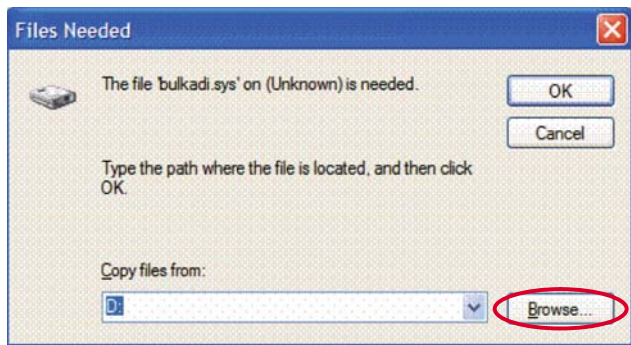

Figure 8. Select Location of *bulkadi.sys* File
5. The **Files Needed** dialog box in Figure 8 appears. To find the required file, *bulkadi.sys*, click **Browse**.